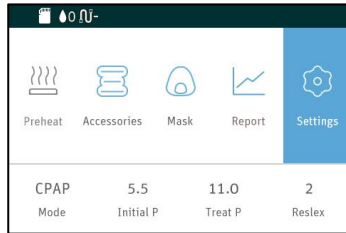

Fig. 15-1
(1) Once device is powered on, the device screen displays the Main Screen shown in Fig. 15-1.